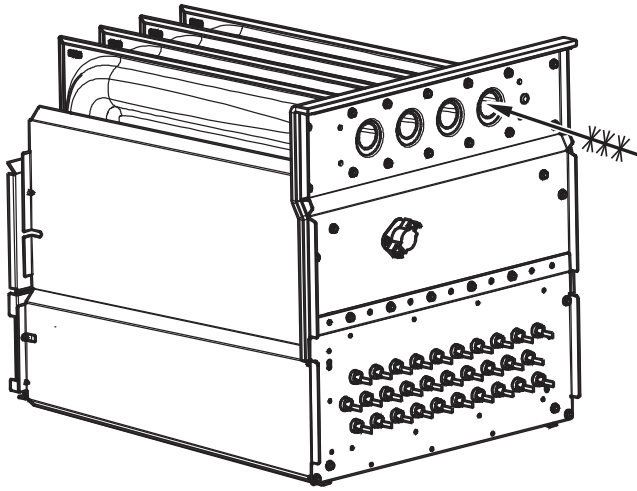

Fig. 64 - Cleaning Heat Exchanger Cell
7. Clean heat exchanger openings with a vacuum and a soft brush. See Fig. 64.